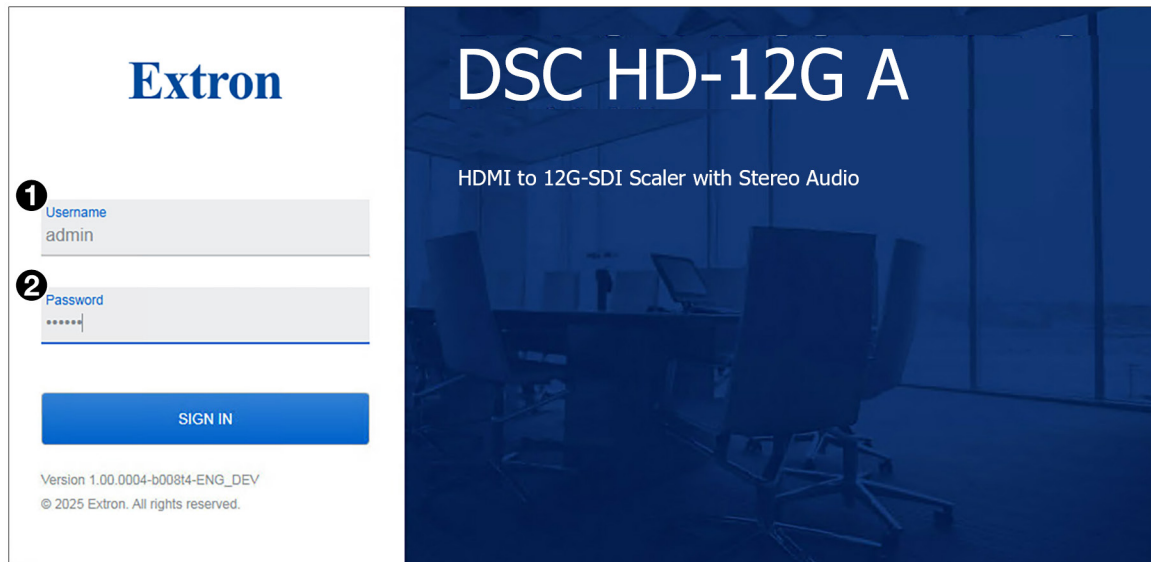

Figure 31. DSC HD-12G A Sign-in Page Example
4. Press <Enter> on the computer keyboard. The product sign-in page opens (see figure 31).